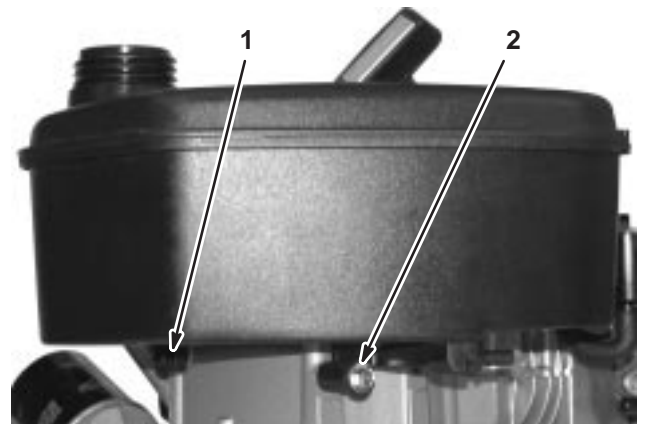

Fig. 83 – Installing Fuel Tank
3. Install shoulder screw between fuel tank and side tank mounting boss. Install shoulder screw and torque screw to 85 in. lbs. (10.0Nm), Fig. 83.
4. Torque lower tank mounting screw to 45 in. lbs. (5.0Nm), Fig. 83.